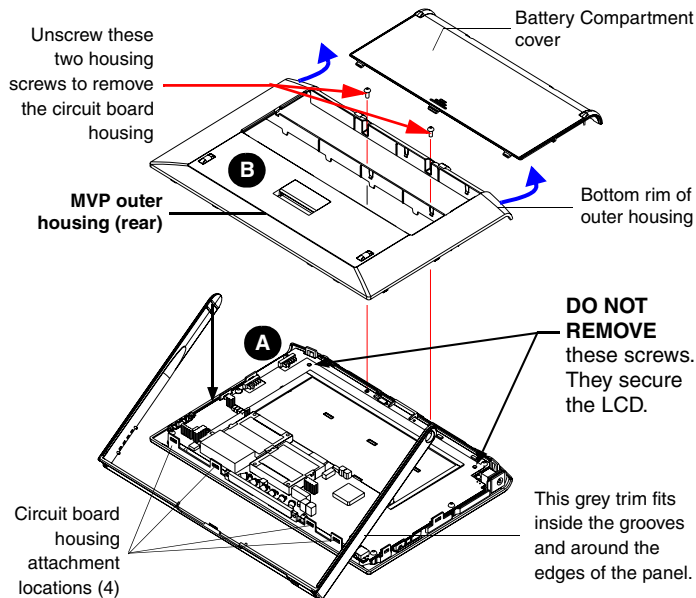
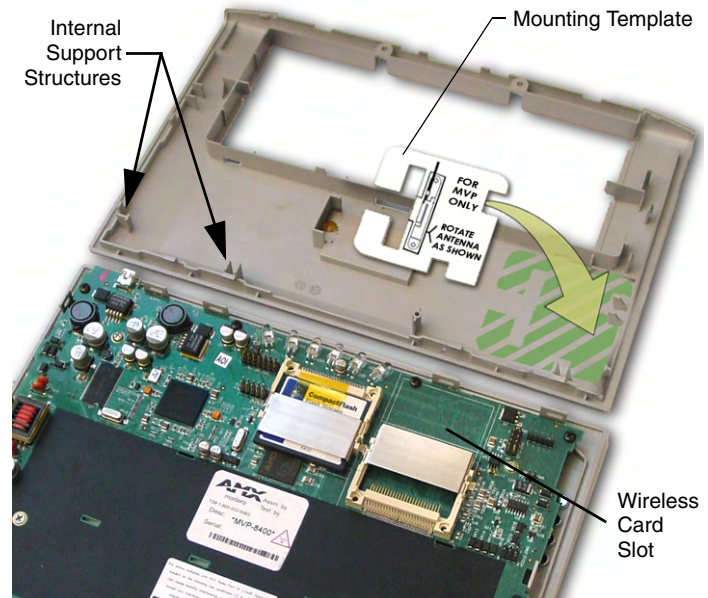

FIG. 2 Removing the MVP enclosure (housing)
FIG. 3 Installing the Mounting Template in the correct location
2. Slide the Battery Compartment cover (FIG. 2) away from the metal plate to expose the internal battery compartment (2 battery slots).
4. Use a grounded Phillips-head screwdriver to remove the two housing screws shown in FIG. 2. Once done, place these screws aside.
5. Grasp the bottom rim of the outer housing (just above the MVP interface connector - Blue arrows in FIG. 2) and **in a single motion**, carefully pull the bottom rim up and then out (away from the IR Emitter) to expose the internal circuit board (A in FIG. 2). *It might be necessary to repeat this process along the bottom and sides of the housing as well.*
6. Remove the dark grey trim from the top rim of the board (FIG. 2).
1. Discharge any static electricity from your body by touching a grounded metal object and then locate the wireless card slot on the main board (FIG. 3).
2. Place the circuit board (A in FIG. 2) on a flat level surface so that the IR Emitters are pointing away from you.
5. Flip over the MVP's rear housing (B in FIG. 2) so that the internal support structures are visible and then lay it directly in front of the circuit board such that the battery compartment is furthest away from you. This placement provides contact of both top rims (FIG. 3).
7. Place the included Mounting Template cutout along the bottom right corner of the rear housing (FIG. 3). Use the housing's inner support structures to fix the template into place.
6. Use a grounded Phillips-head screwdriver to insert and re-secure the two housing screws removed in Step 1 (FIG. 2).